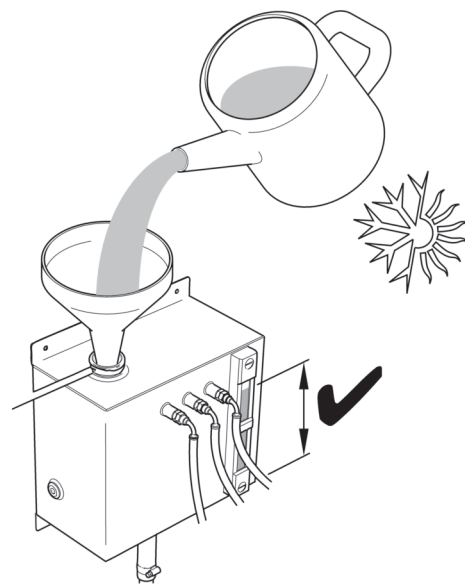

Figure 36
- 9 Top-up with 20% antifreeze solution , for normal operation, (50% for extreme conditions) to maximum level (figure 36).